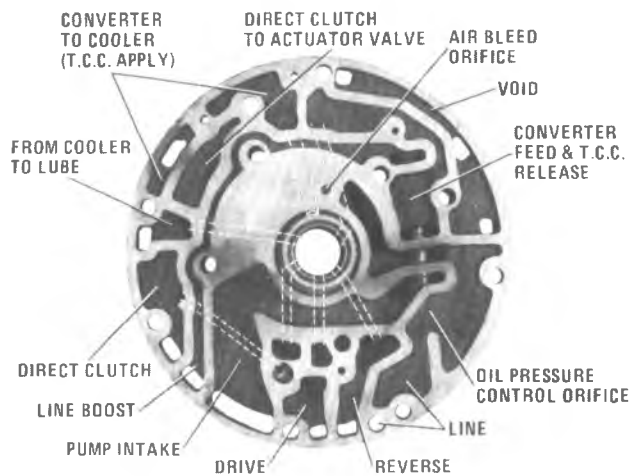

Figure 7A1-146 Pump Cover Assembly
7. Compress pressure regulator valve spring by pushing on bore plug with small screwdriver and install retaining ring. (Figure 7A1-150).